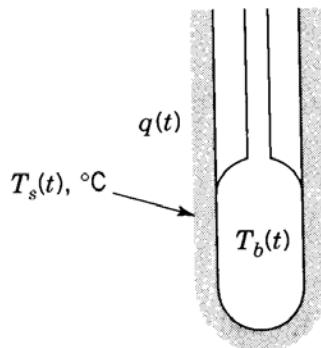

Figure Q.1.[b]: Temperature Sensor
- [b] Consider the temperature sensor sketched in Figure Q.1.[b]. The bulb and its surrounding thermowell are at a uniform temperature, $T_b(t)$, and the surroundings are at a uniform temperature, $T_s(t)$.